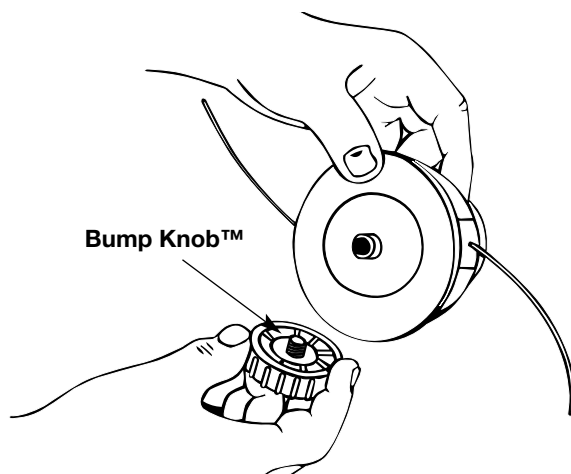

Fig. 18
1. Hold the outer spool with one hand and unscrew the Bump Knob™ **counterclockwise** (Fig. 18). Inspect the bolt inside the Bump Knob to make sure it moves freely. Replace the Bump Knob if damaged.
1. Hold the outer spool with one hand and unscrew the Bump Knob **counterclockwise** (Fig. 18). Inspect the bolt inside the Bump Knob to make sure it moves freely. Replace the Bump Knob if damaged.